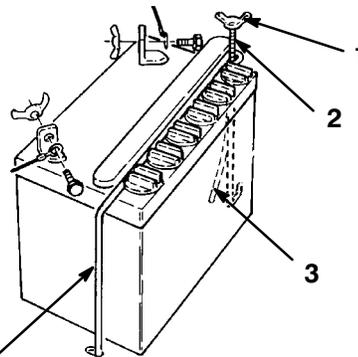

Figure 14
2. Remove wing nut securing battery hold downs to rider chassis (Fig. 14).
3. Disconnect the negative (black) ground cable from the battery post (Fig. 14).
4. Lift the rubber cover up on the positive (red) cable. Disconnect the positive (red) cable from the battery post (Fig. 14).
5. Remove wing nut securing battery hold downs to rider chassis (Fig. 14).